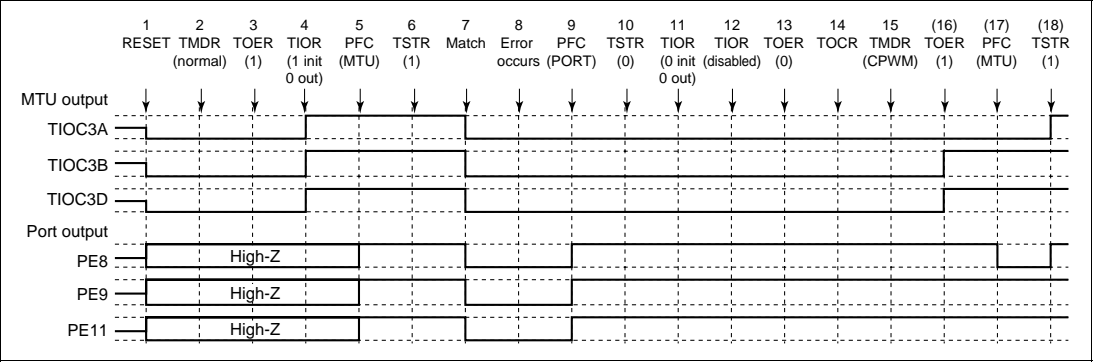

Figure 12.100 Error Occurrence in Normal Mode, Recovery in Complementary PWM Mode
(5) Operation when Error Occurs during Normal Mode Operation, and Operation is Restarted in Complementary PWM Mode: Figure 12.100 shows an explanatory diagram of the case where an error occurs in normal mode and operation is restarted in complementary PWM mode after re-setting.
- 1 to 13 are the same as in figure 12.100.